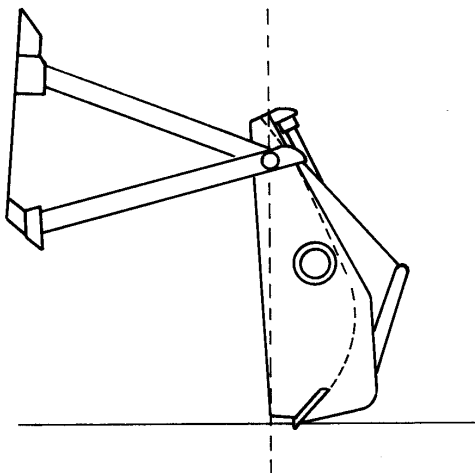

Fig. 4.54. Bulldozing with Multi-purpose Bucket
1. With the clam fully open, the multi-purpose bucket can be used as a bulldozer. Position the bucket as shown in Fig. 4.54 for digging.